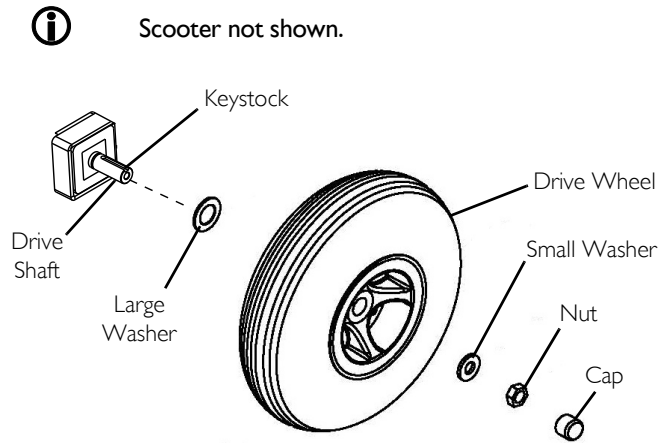

FIGURE 9.1 Removing/Installing the Drive Wheels
For this procedure, refer to FIGURE 9.1 on page 37.
1. Place keystone in cutout on drive shaft as shown in FIGURE 9.1.